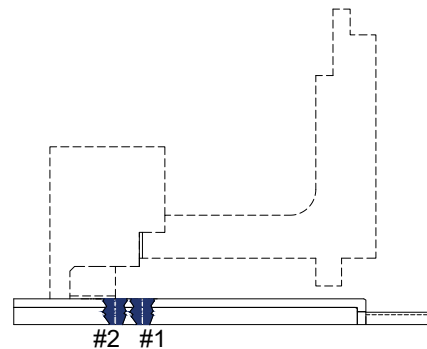

Figure 11: Scribe location of seal face
3. Disassemble the pump and apply layout dye at the approximate location of the seal face. Measure the seal face distance (L) from Line #1 and scribe Line #2 into the dye as shown in Figure 11.